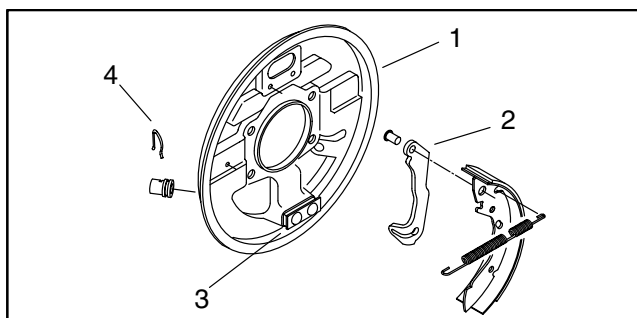

Figure 12
5. Disconnect cable from rear brake (Fig. 12):
1. Connect brake cable to rear brake by inserting cable through brake backing plate and into parking brake lever. Install brake cable clip to secure cable to backing plate (Fig. 12).